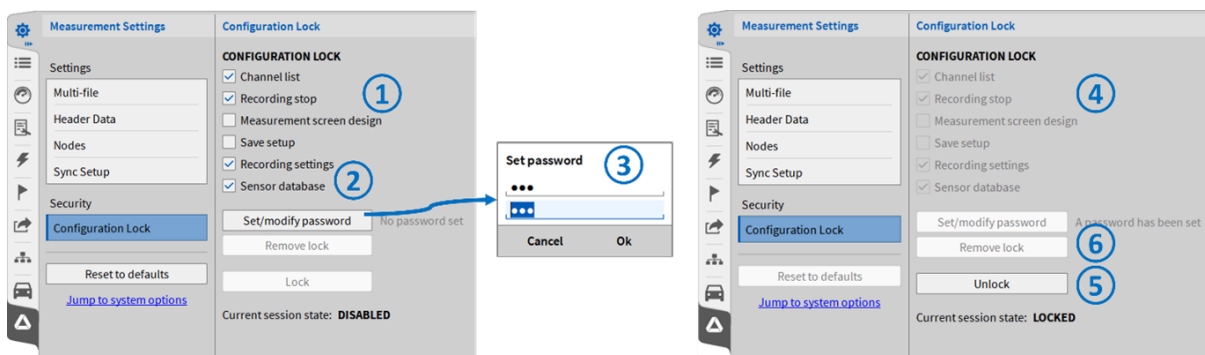

Fig. 5.45: Activation setup lock
- Select the settings that shall be locked (see ① in Fig. 5.45).
- Press *Set/modify password* (see ② in Fig. 5.45).
- Enter the password and confirm it (see ③ in Fig. 5.45).
- The selected settings will be locked afterwards (see ④ in Fig. 5.45).
- To unlock the settings again, press the *Unlock* button and enter the password (see ⑤ in Fig. 5.45).
- To remove the lock from the setup again, press *Remove lock* in the unlocked state (see ⑥ in Fig. 5.45).